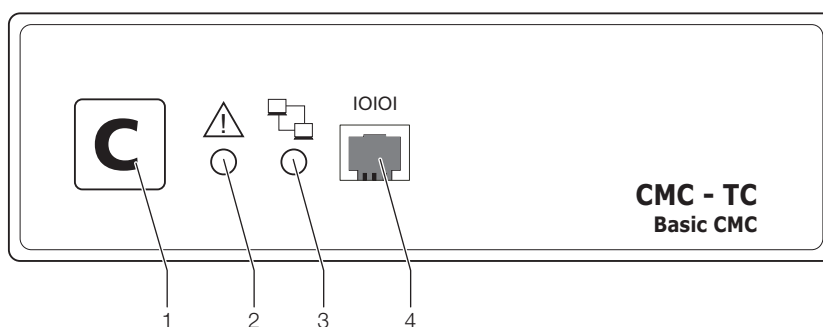

Fig. 46: Control unit Liquid Cooling Package (Basic CMC) – front
After turning on for the first time or after repair work, it is possible that the Liquid Cooling Package Inline will operate in emergency operation mode. In order to switch the unit to normal operation (control operation), press down the "C" button (Fig. 46, item 1) once quickly.
By connecting the Liquid Cooling Package Inline control unit (Basic CMC) to a network, you are able to call up various measurements and warning or alarm messages. These may then be further processed (e.g. via a Web browser, SNMP, etc.). Furthermore, various values can be set over the network and then sent to the control unit. If the control unit is connected to a network, the status LED (Fig. 46, item 3) flashes when the unit is polled over the network via the Ethernet interface.